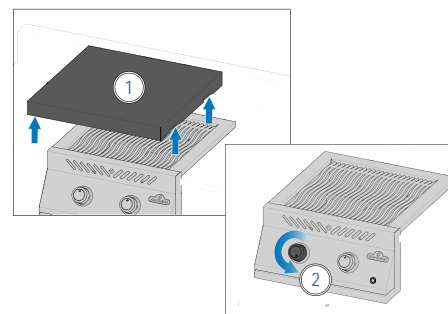

Fig. 2
5. If the burner will not light – turn burner control knob clockwise to the OFF position. Wait 5 minutes. Repeat step 3 and 4. (Fig. 2)
4. If the burner will not ignite – turn burner control knob clockwise to the OFF position. Wait 5 minutes. Repeat step 2 and 3. (Fig. 2)